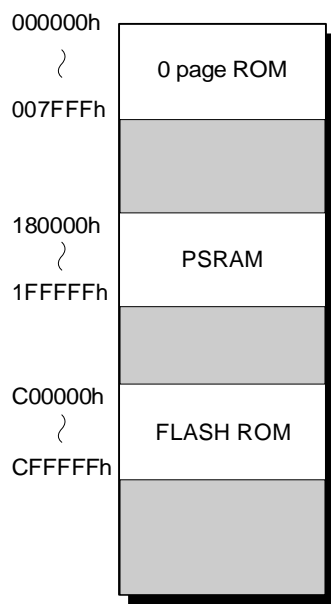

Fig. 17
1. During normal operation (Fig. 17)